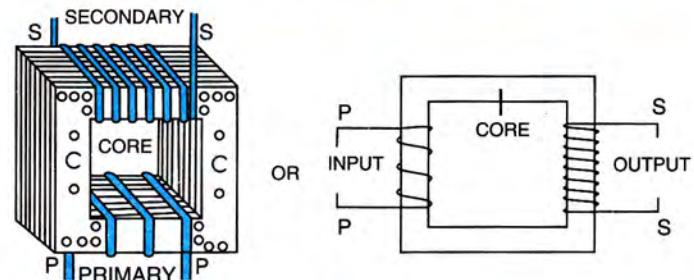

Fig. 10.36 Step up and step down transformers
**Types of transformers :** There are two types of transformers : (1) step up transformer, and (2) step down transformer.
- (1) **Step up transformer :** The transformer used to change a low alternating voltage to a high alternating voltage (of same frequency) is called a step up transformer (i.e.,  $E_s > E_p$ ). In a step up transformer, the number of turns in the secondary coil is more than the number of turns in the primary coil ( $N_s > N_p$ ) i.e., turns ratio  $n > 1$  as shown in Fig. 10.36. Since current in primary coil is